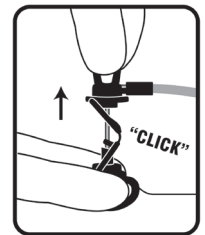

Figure 6
2. While maintaining Pro-Lock™ base against patient, pull wings up vertically to remove the needle from port. Fully retract the needle to ensure the needle point is positioned within the protective well. USER WILL HEAR/FEEL SAFETY MECHANISM LOCK IN PLACE (Fig. 6).
16. With available hand, firmly grasp wings between thumb and forefinger and while maintaining Pro-Lock™ base against patient pull up vertically to remove the needle from the port. Fully retract the needle to ensure the needle point is positioned within the protective well. **USER WILL HEAR/FEEL LOCKING MECHANISM LOCK IN PLACE** (Fig. 6).